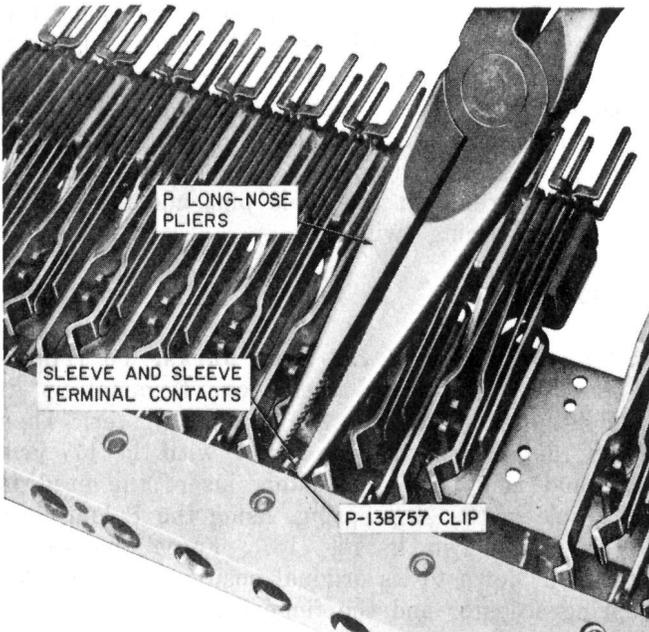

Fig. 17—Method of Fastening P-13B757 Clip to the Contacts of the Sleeve and Sleeve Terminal on 510-, 511-, and 512-Type Jacks
3.29 Position the P-13B757 clip on the contacts of the sleeve and sleeve terminal, using the P long-nose pliers, and fasten the clip in place by compressing it with the pliers. See Fig. 17. Then solder the contacts together using the KS-14440 soldering copper. Remount the jack mounting and mounting screws in reverse order of removal. If necessary, remount the cable pins and secure the cable with lacing twine.